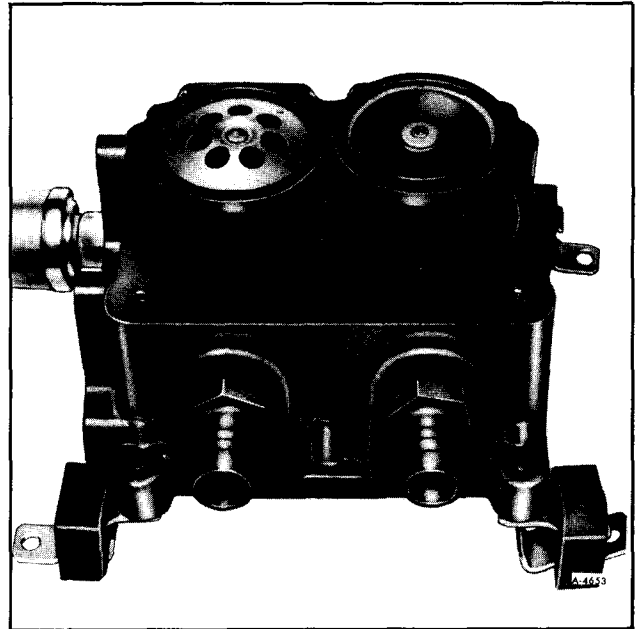

Figure 16—Water Pump Valves
4. Expose valves by lifting jack shaft and attached diaphragm assembly from pump base. (figure 16).